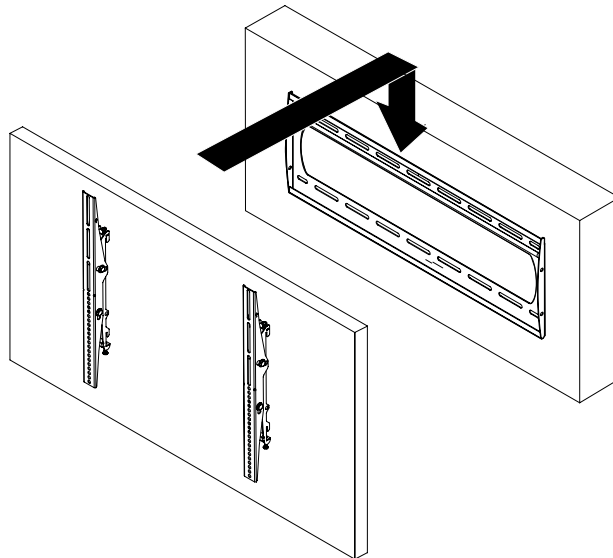

Figure 33. Sliding the Flat-Panel On the Wall Plate
2. Slide the flat-panel down slowly, keeping it close to the wall (Figure 33).